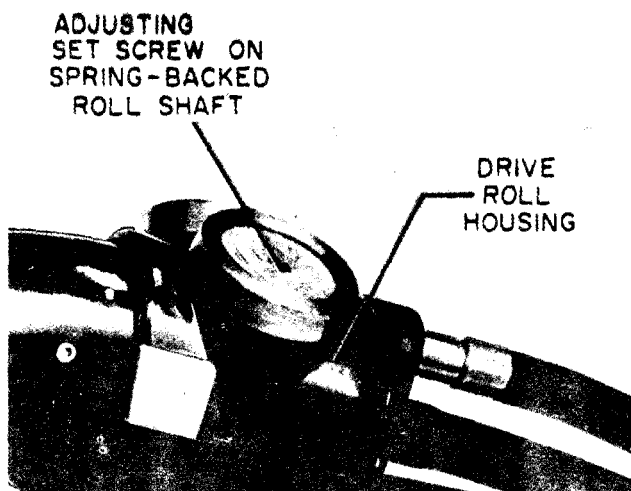

Figure 9. Adjusting Setscrew for Conical Roll Shaft
b. Back off adjusting set screw (Fig. 9) on right-hand disc of drive roll housing to relieve pressure on conical roll shaft.
j. Turn adjusting setscrew (Fig. 9) slowly clockwise until conical roll presses on wire within grooved roll. Compression should be just enough for positive wire drive.